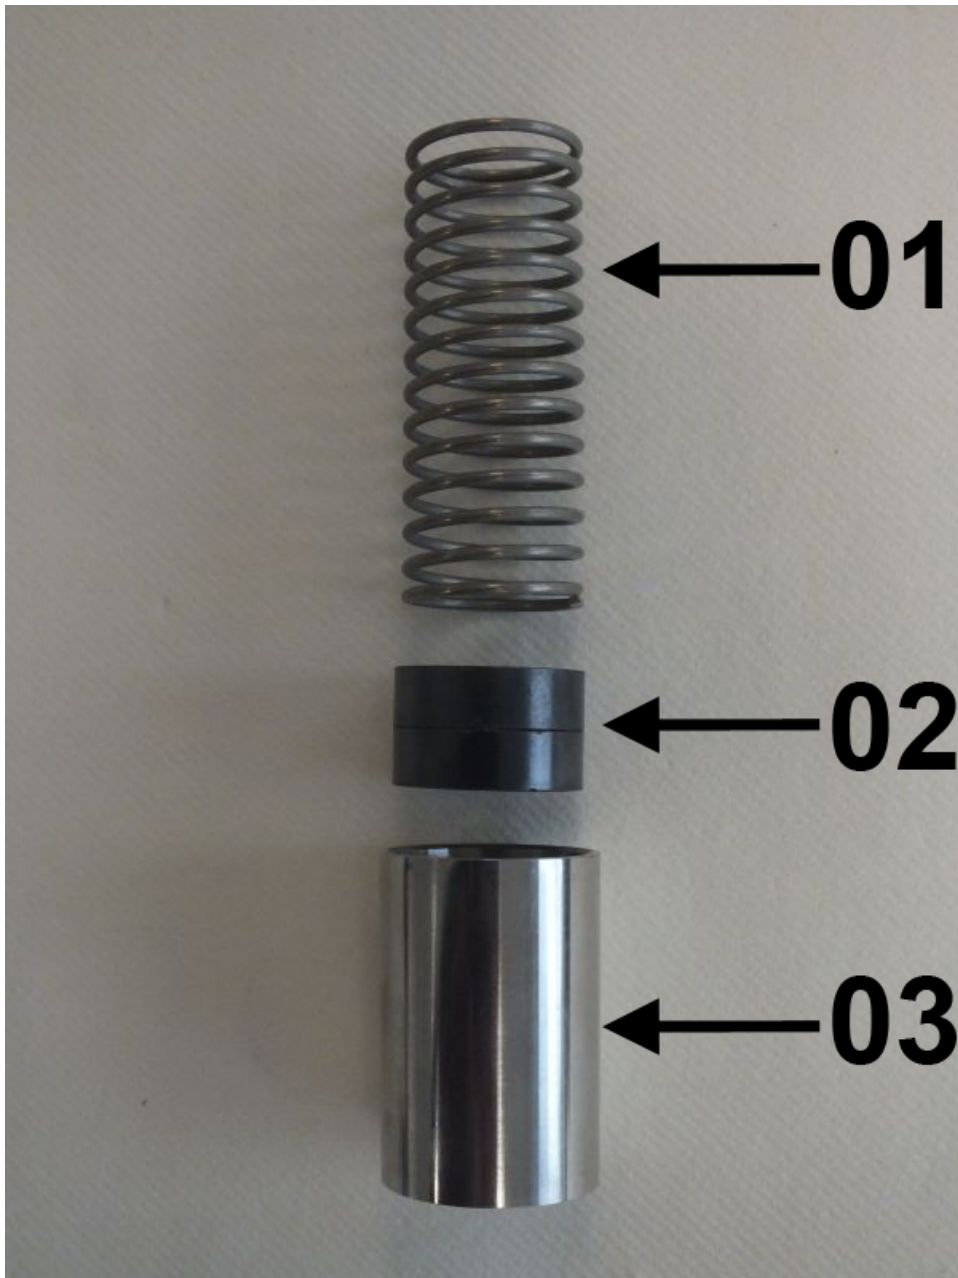

Fig. 47: Spring, magnets and float
7. ➤ The inner parts of the flow monitor consist of the (Fig. 47/01) spring, (Fig. 47/02) magnets and (Fig. 47/03) float.